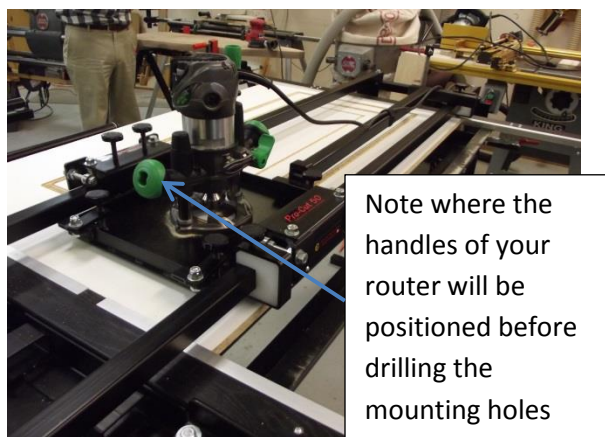

Fig 30
- 2) Use the router base plate as a template to mark where you will drill the three mounting holes in the Pro-Cut 50 router insert plate. ***Be sure the router handles are facing the way you want before you drill the 3 mounting holes in the router insert plate. (See Fig 30)***